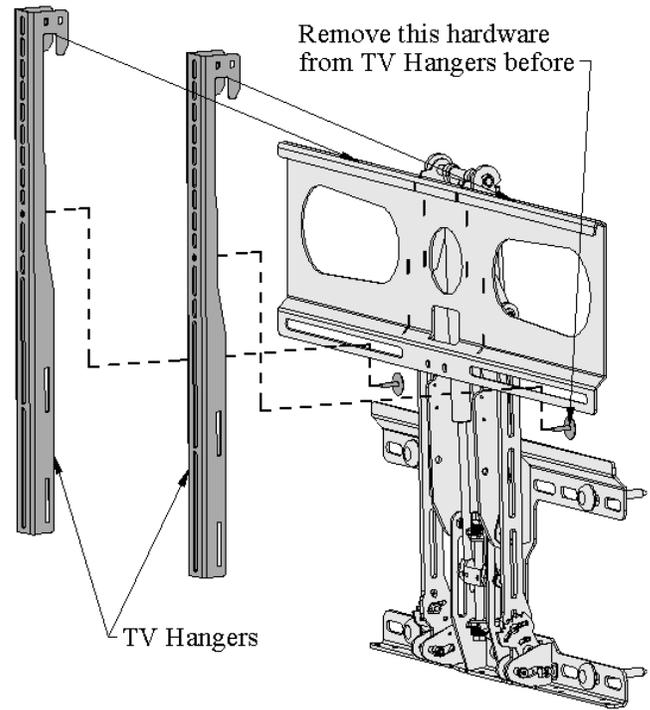

Figure 8, Attaching the Television
3. Hook the TV Hangers (with the TV attached to them) over the Hook Plate as shown in Figure 8.